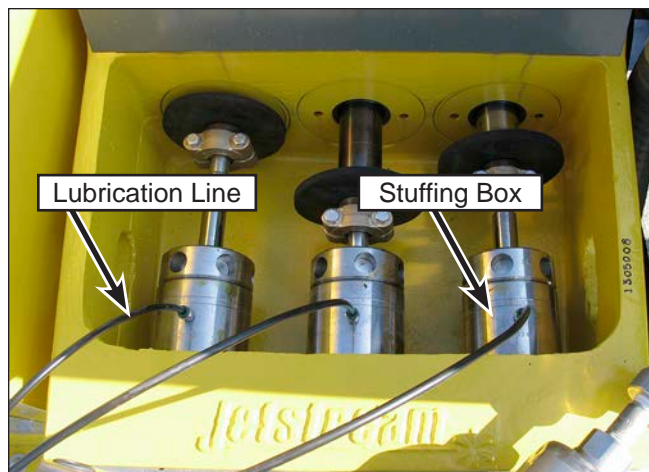

Figure 9: Checking Lubrication.
2. Look into the rod box and verify that lubrication water is flowing between the gland nuts and the plungers. On 6000 series pumps, the water will flow from the small holes in the bottom of the gland nut wrench holes. (Figure 9).